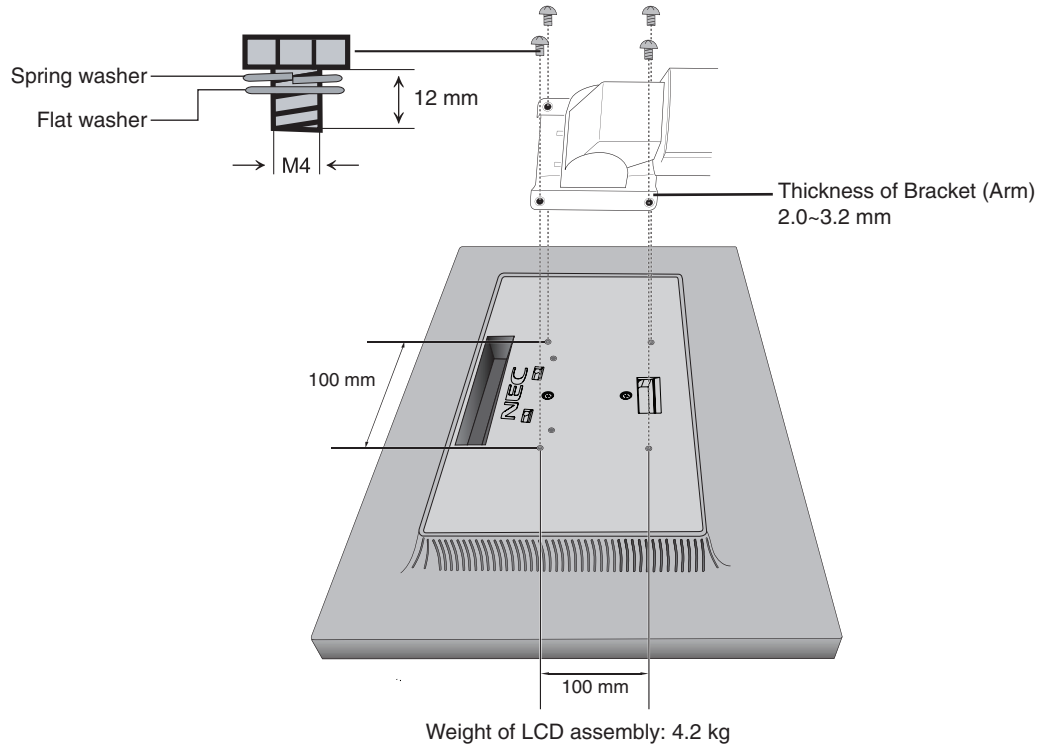

Figure F.1
2. Using the specified 4 screws, attach the arm to the monitor (**Figure F.1**).